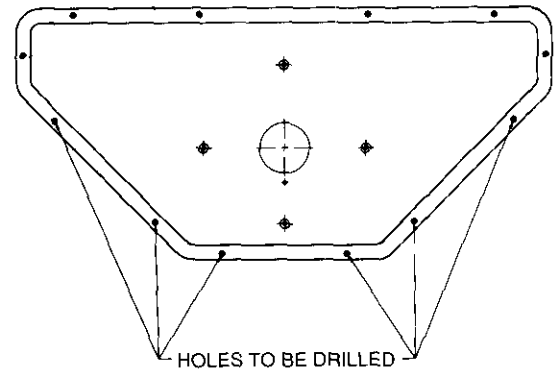

Figure 40 (4-046)
**NOTE:** Some screw holes are not open. Use self-drilling screws provided or a 1/8" - drill. See Figure 40.